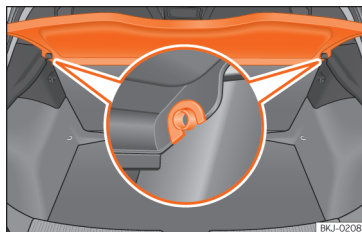

Fig. 137 In the boot: removing and installing the shelf.
- Remove the rear shelf from the side supports >>> Fig. 137 by pulling it upwards and then take it out.
- Insert the cover horizontally so that the “recess” fits onto the axis of the supports >>> Fig. 137 and press down until it engages.